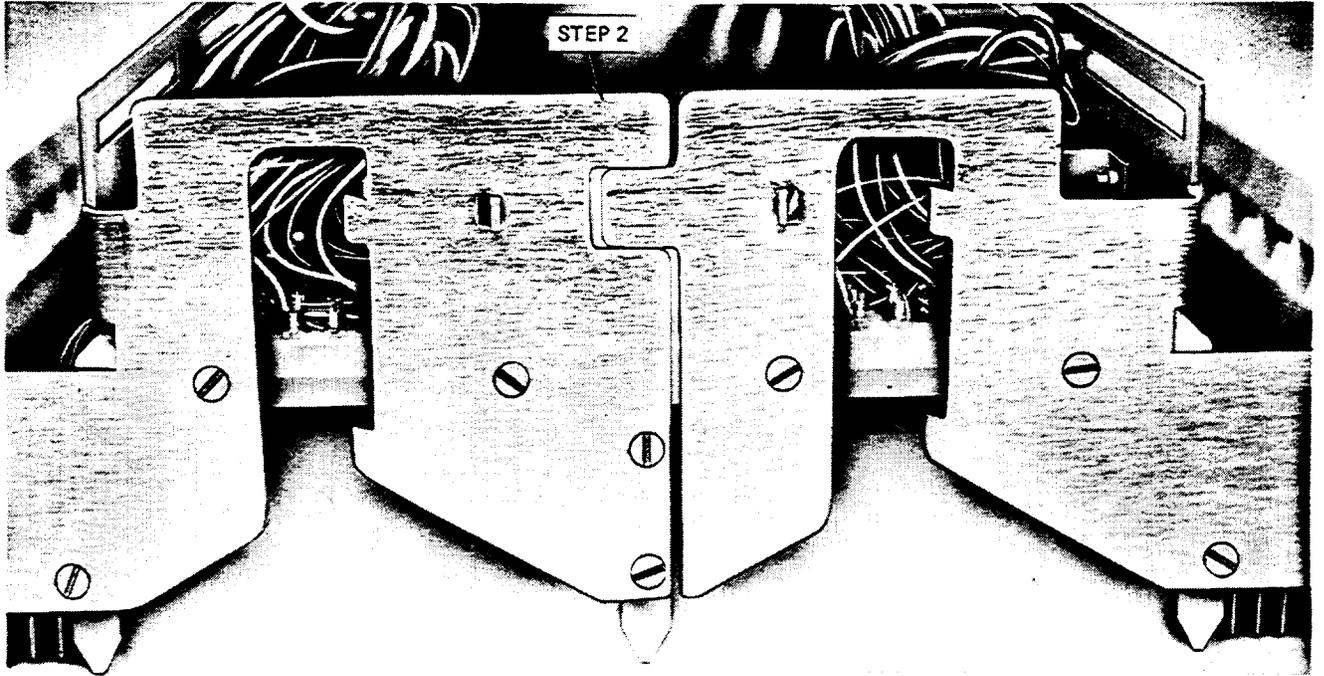

Figure 13—Seating Tab
- (1) See Figure 13 for the number that corresponds to the following step.
- (2) Seat the tab into the slot.